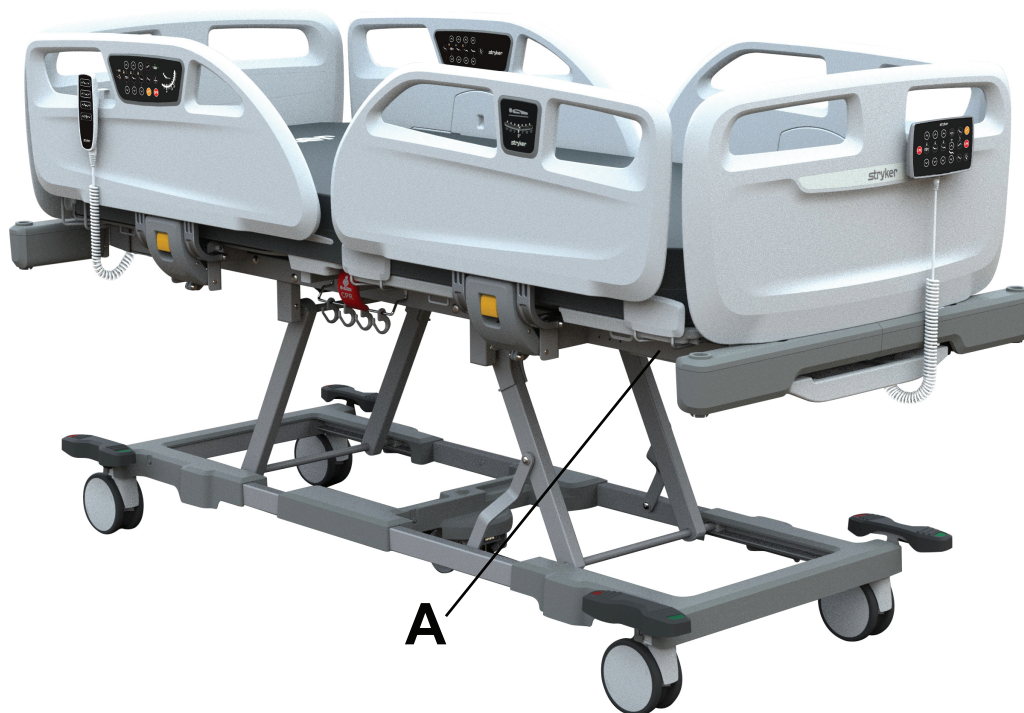

Figure 5 – Stryker serial number and specification label location
The Stryker serial number and specification label (A) is located below the patient siderail near the foot end of the product (Figure 5).